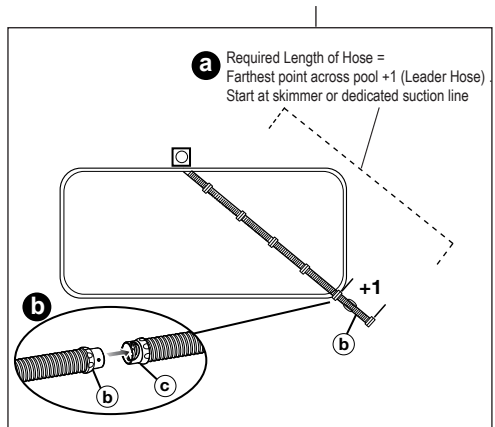

Figure 4. Determine Correct Hose Length
1. Measure enough hose to reach the farthest point of the pool from the skimmer or dedicated suction line. Remove any additional hose sections, as necessary. See (A) in Figure 4, below.